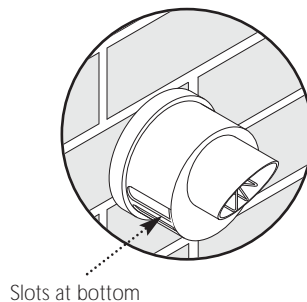

Fig. 52
10. Ensure that the terminal is positioned with the slots to the bottom (Fig. 52).